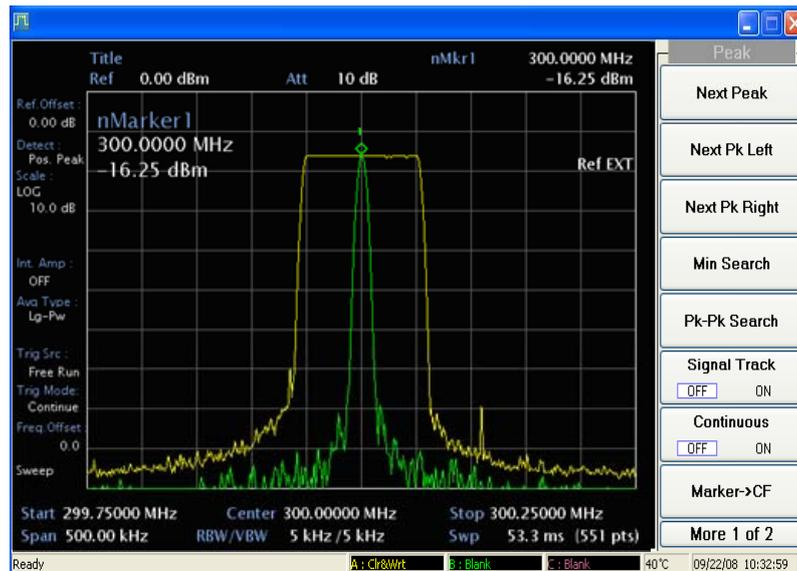

Fig. A-10 Viewing a drifting signal with Max Hold and Clear & Write
- 8 Slowly change the frequency of the signal generator ± 50 kHz. Your analyzer display should look similar to Fig. A-10.